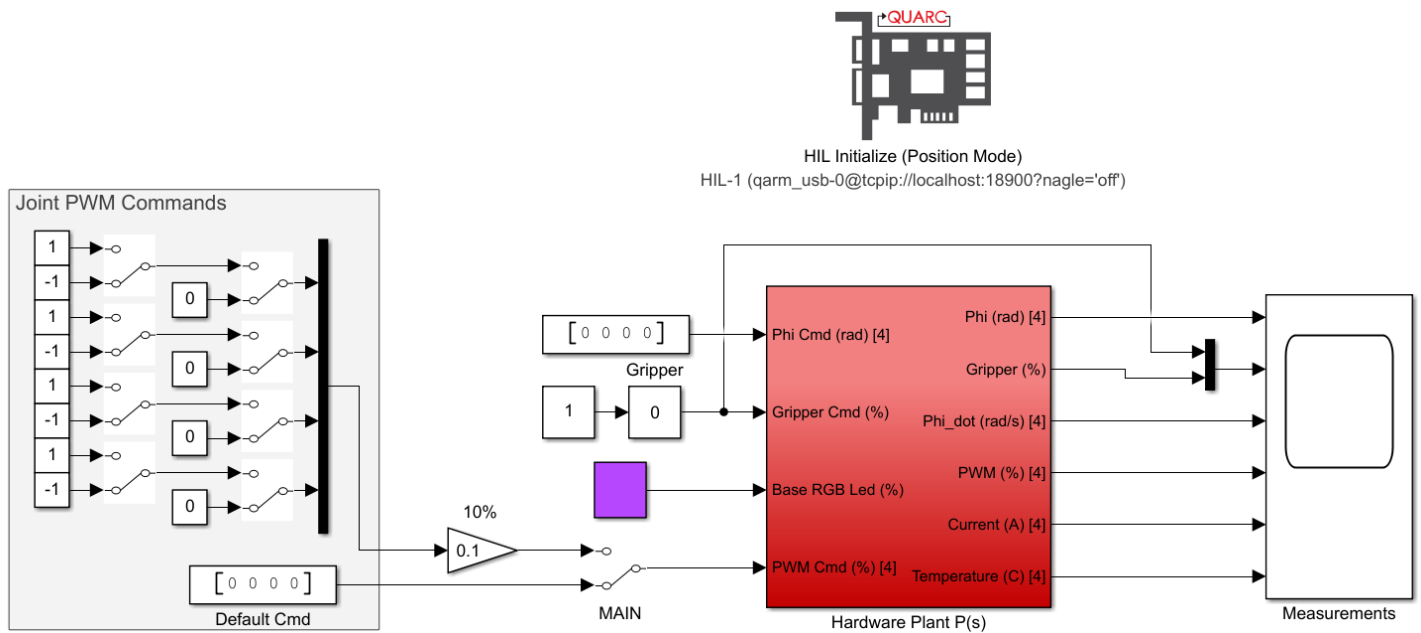

Figure 3: Simulink model that controls the QArm in PWM mode
1. Open the Simulink model BasicIO_pwm_mode.slx (Figure 3). You will use this model to command PWM signals to each joint of the manipulator, causing the joint controllers to output a proportional voltage ranging between -12V and 12 V.